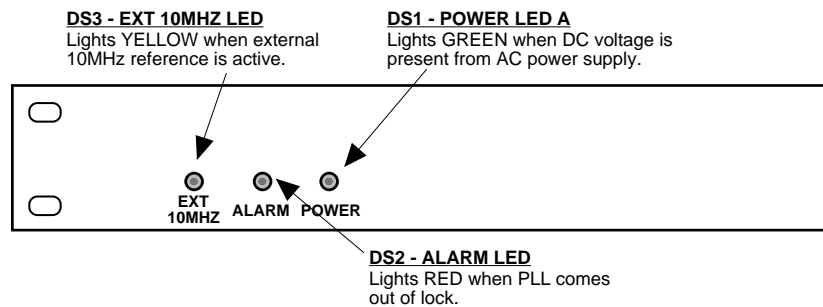

FIGURE 2.2 2116-14T17 Front Panel Controls and Indicators
Figure 2.2 shows the front panel indicators.
4. Be sure DS1 (green, DC Power) is on and DS2 (red, Alarm) is off (Figure 2.2).
6. If EXT is selected or AUTO is selected and there is a 10MHz, 3 dBm signal at J2, check that DS3 (yellow, Ext 10MHZ) is on (Figure 2.2).